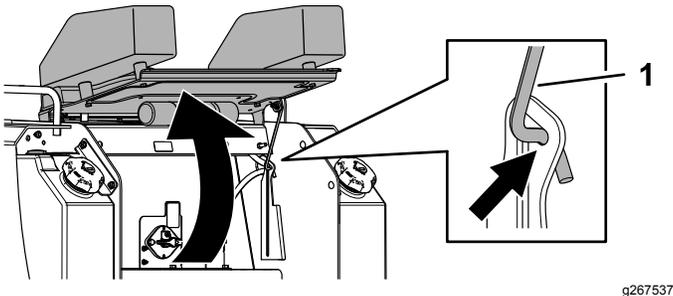

Figure 40
2. Lift the rear-access cover up and secure the prop rod to access the internal components (Figure 40).